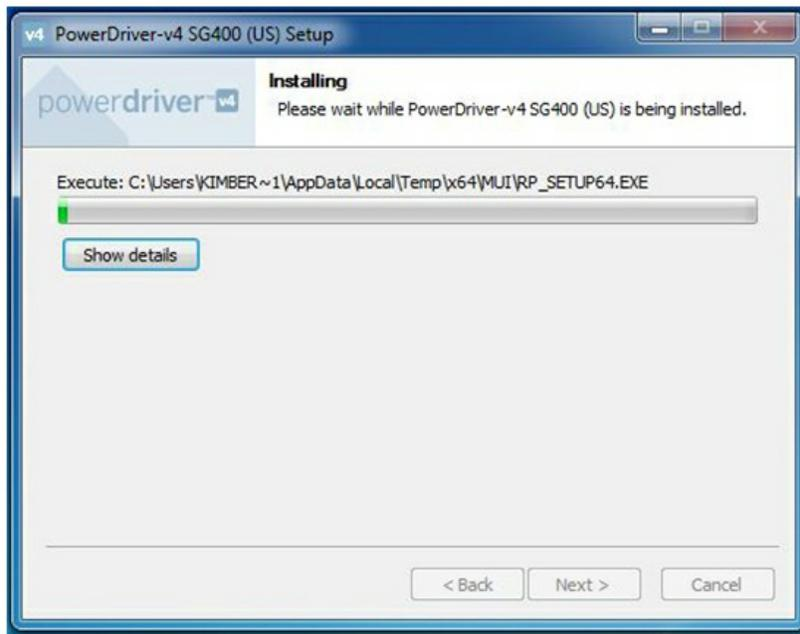

FIGURE 9
9. If the appropriate Sawgrass SG400 printer driver is not currently installed, it will begin to download. The following status screen will be displayed during this process. See Figure 9.